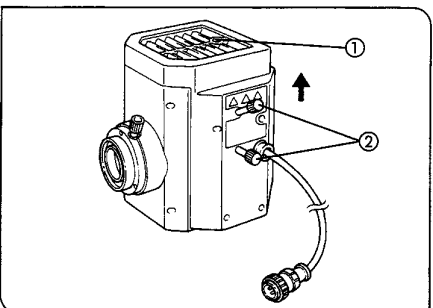

Fig. 3
1. Loosen the burner socket clamping screw ① using the Allen screwdriver. (Fig. 3)